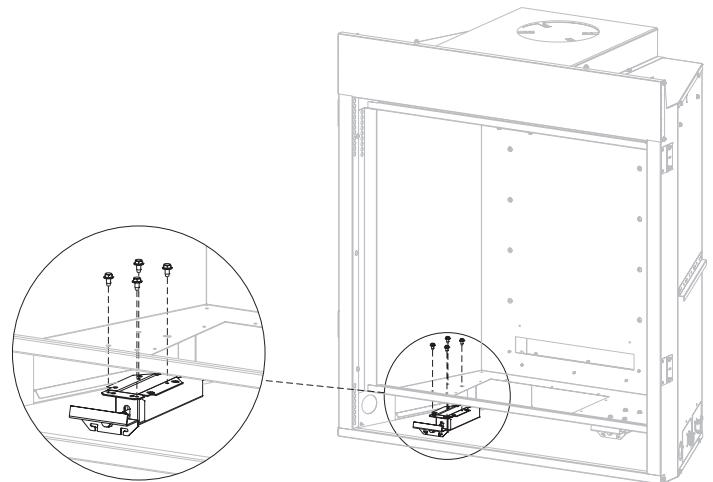

Figure 11
8. Remove the four #10 x 1/2 screws securing the latch assembly to the underside of the firebox. Retain screws and latch assembly for reassembly. **See Figure 11.**
11. Reinstall the latch assembly removed in step 8. **See Figure 11.**